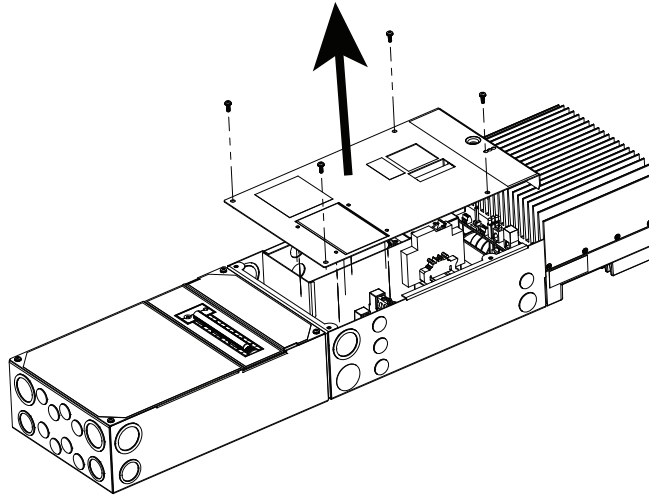

Figure 3-4. Remove the wiring box cover.
Use a #2 Phillips screw driver to remove the four (4) screws that secure the wiring box cover as shown in figure 3-4 below.